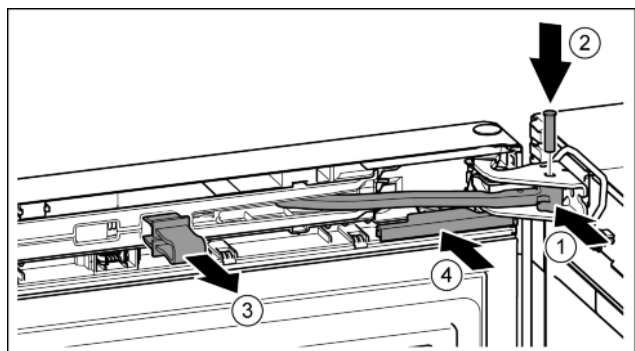

Fig. 21
- ▶ Turn the hinge in the bearing bracket. Fig. 21 (1)
- ▶ Insert the bolt in the bearing bracket and hinge. Make sure that the catch mechanism is sitting correctly in the groove. Fig. 21 (2)
- ▶ Remove the locking device. *Fig. 21 (3)*
- ▶ Slide on the cover. *Fig. 21 (4)*